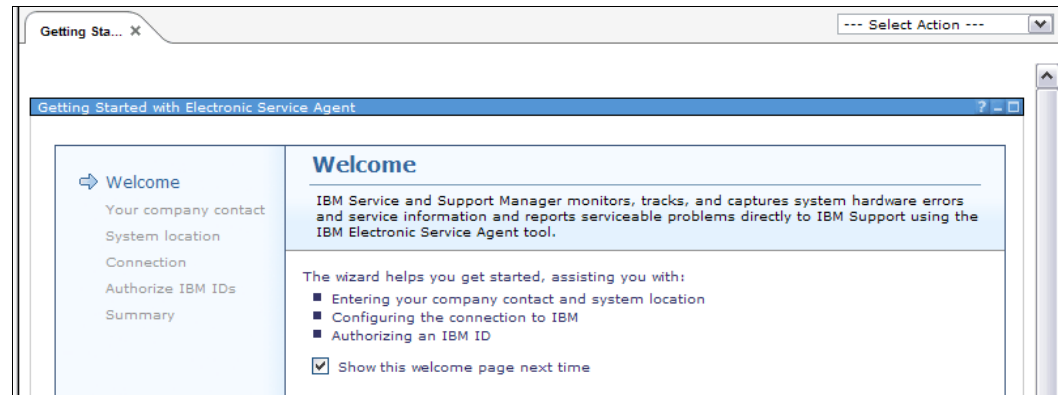

Figure 13-40 Getting Started with Electronic Service Agent welcome screen
1. You can set up and enable Electronic Service Agent from the Additional Setup tab of the IBM Flex System Manager home page Getting started with Electronic Service Agent welcome screen, as shown in Figure 13-40 on page 565.